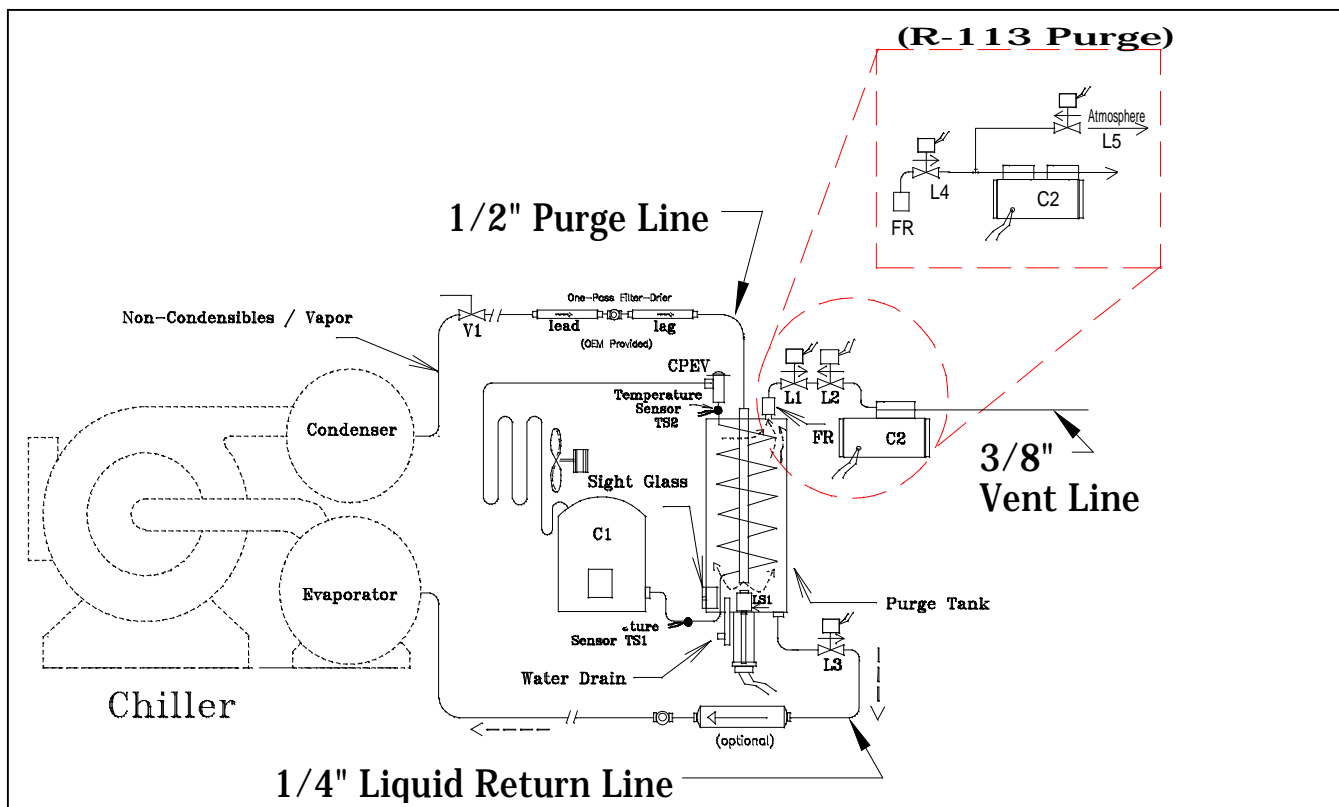

Figure 1 - Connection sizes and locations
The purge requires three separate refrigerant line connections (see Figure 1 on page 12):
The two (2) Streamline™ one pass filter-driers and moisture indicator provided with the purge **MUST** be installed in the **vapor inlet** line between the chiller and the purge unit to prevent buildup of acid and particulates in the purge tank (see Figure 1 on page 12). **DO NOT OMIT OR SUBSTITUTE!**
The liquid refrigerant return line runs between the evaporator's original liquid return angle valve and drain back solenoid valve L3 (see Figure 1 on page 12) or the outlet of the optional liquid line filter-drier, if used. Use 1/4" refrigerant-grade copper tubing.
Two (2) Streamline™ one pass filter-driers and moisture indicator are provided with the purge to be **INSTALLED IN THE VAPOR INLET LINE BETWEEN THE CHILLER AND THE PURGE** unit to prevent buildup of acid and particulates in the purge tank (see Figure 1 on page 12).